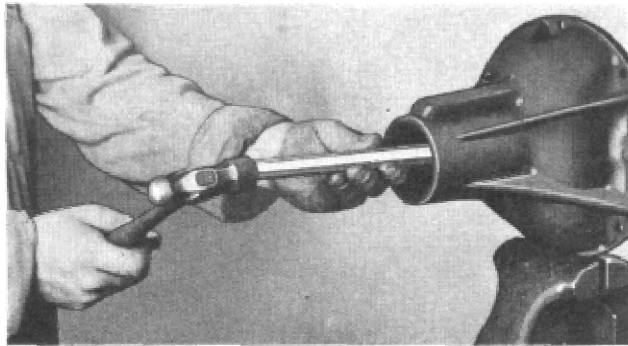

Figure 9
(25) Remove front and rear pinion shaft bearing outer cups from carrier, using pinion bearing cup remover HM-63 (Fig. 9).